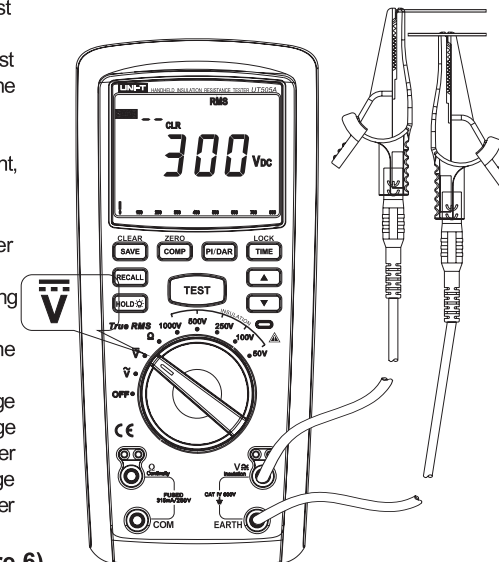

Figure 5
2. DC voltage measurement (See Figure 5)
- ① Insert red test pen in “ \sim V” jack (red hole) and black test pen in “EARTH” jack (black hole).
- ② Push the rotating switch to the gear “ ∇ ” and connect test pen in parallel with the power source or to both ends of the load to be measured.
- ③ Directly read the measured voltage value from display.
- ④ To save the measured voltage value during measurement, just push the button “SAVE”.